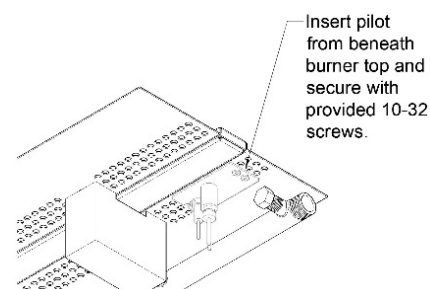

FIGURE 46
- 11) Insert the pilot assembly from underneath the existing burner pan to the area of the removed burner section. **(Figure 46)**